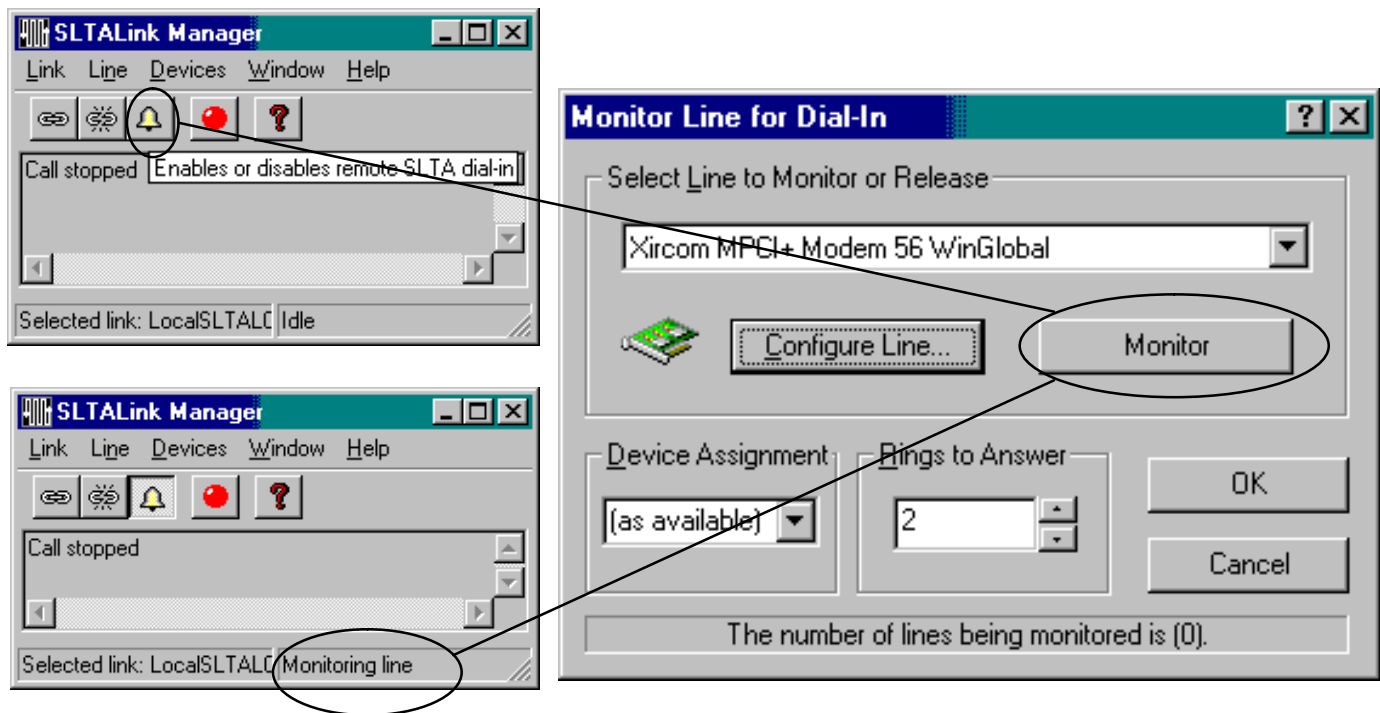

FIGURE 4-27. SLTA DIALING CONFIGURATION
- j. Click on **Finish**, to complete the Link Properties settings for the remote PC. The SLTA Link Manager is displayed (see Figure 4-27)